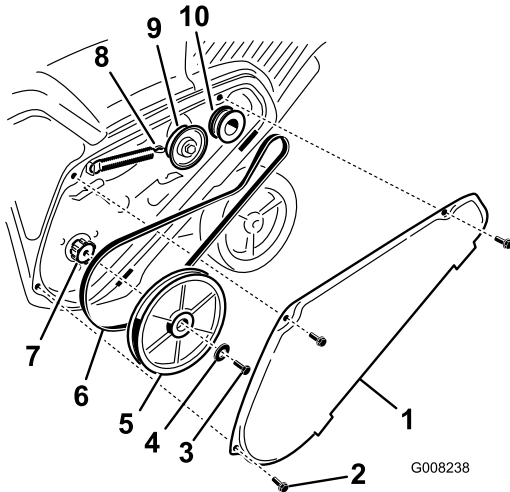

Figure 35
1. Remove the drive-belt cover by removing the 3 bolts as shown in Figure 35.
2. Unhook the brake spring from the idler arm to release the belt tension (Figure 35).
3. Remove the screw and curved washer that holds the rotor pulley (Figure 35).
4. Remove the rotor pulley and the drive belt (Figure 35).
loose rotor pulley positioned just above the rotor shaft (Figure 35).
6. Install the rotor pulley onto the rotor shaft (Figure 35).
7. Install the curved washer and the rotor pulley bolt and tighten them securely (Figure 35).